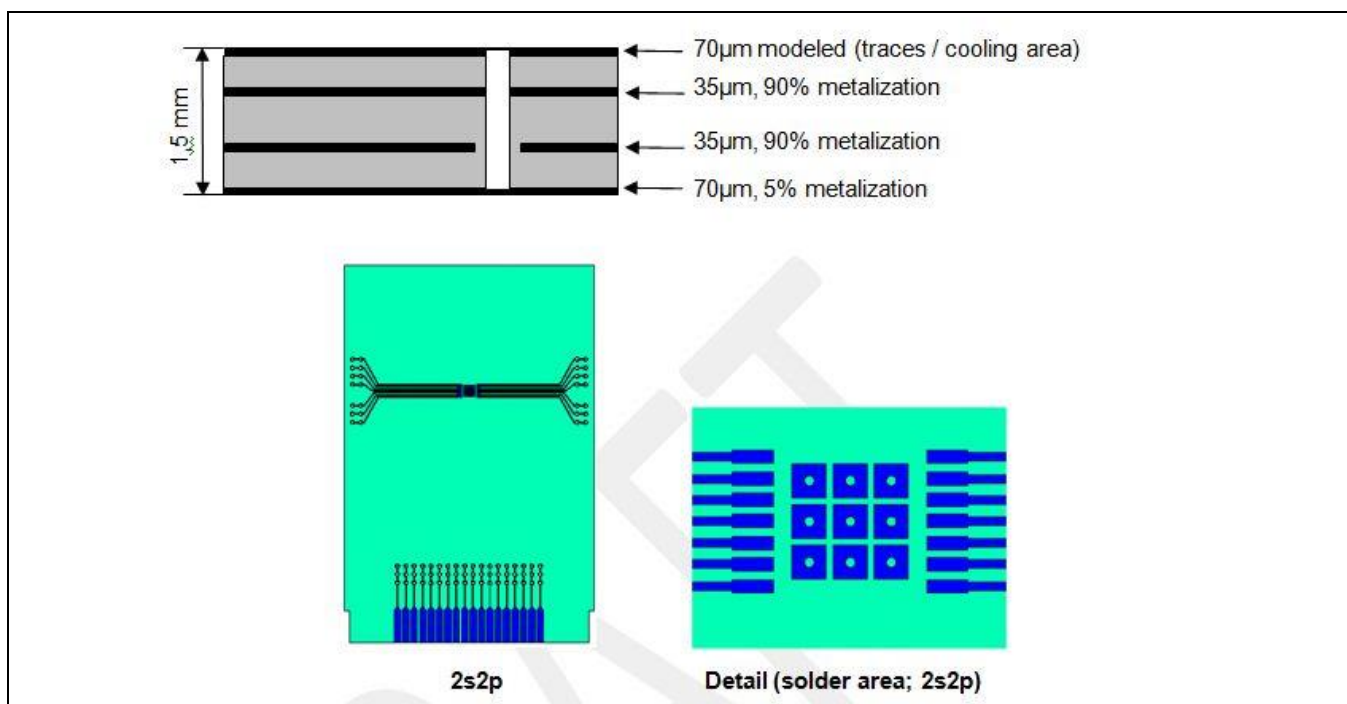

Figure 58 JESD51 2s2p PCB configuration
- Junction to Ambient 2s2p: See Figure 58. This is the case where the PCB consists of a top and bottom layer of 70µm copper, 2 inner layers of 35µm copper and a matrix of thermal vias connecting the exposed pad of the device to the first inner layer.